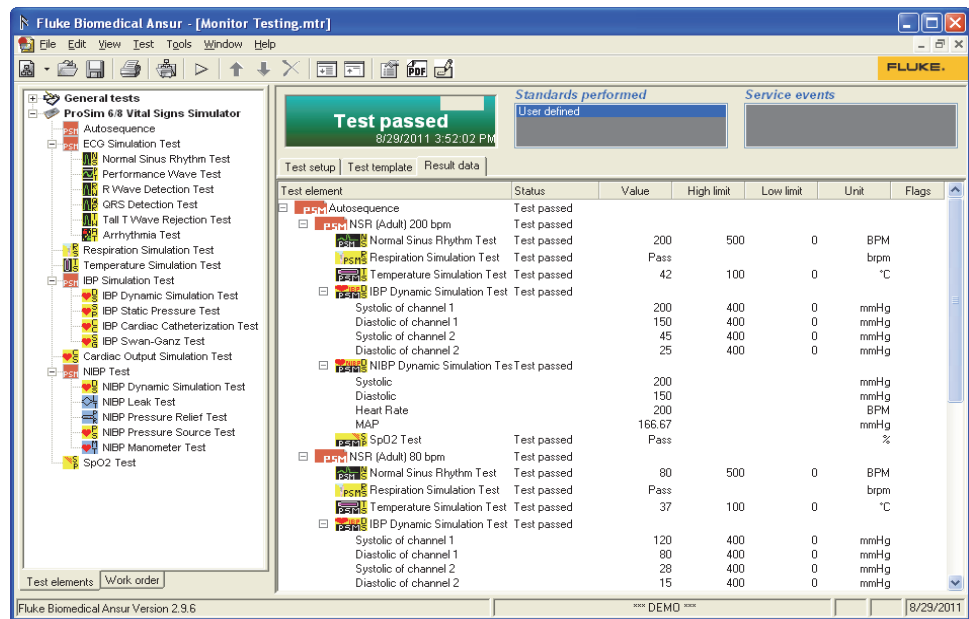

Figure 3-27. Test Results File for Stepped Autosequence
9. Click  to show the test results file shown in Figure 3-27.